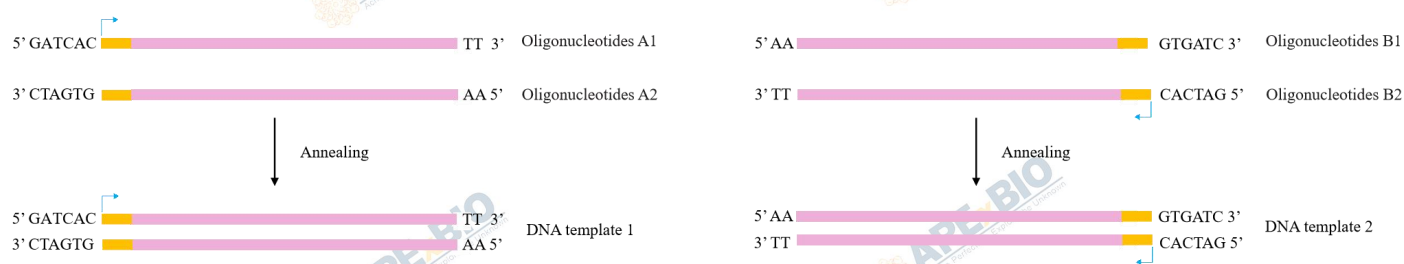

Figure 2 Oligonucleotides as in vitro transcriptional templates
(2) If siRNA is transcribed, four single-stranded DNA can be synthesized separately, and then two double-stranded DNA templates can be obtained by annealing, as shown in Figure 2. Due to the short siRNA template fragment, the binding efficiency of polymerase to the template is low, so six bases (GATCAC) can be added to the 5' end of the T7 promoter to promote the binding of enzyme to the template.